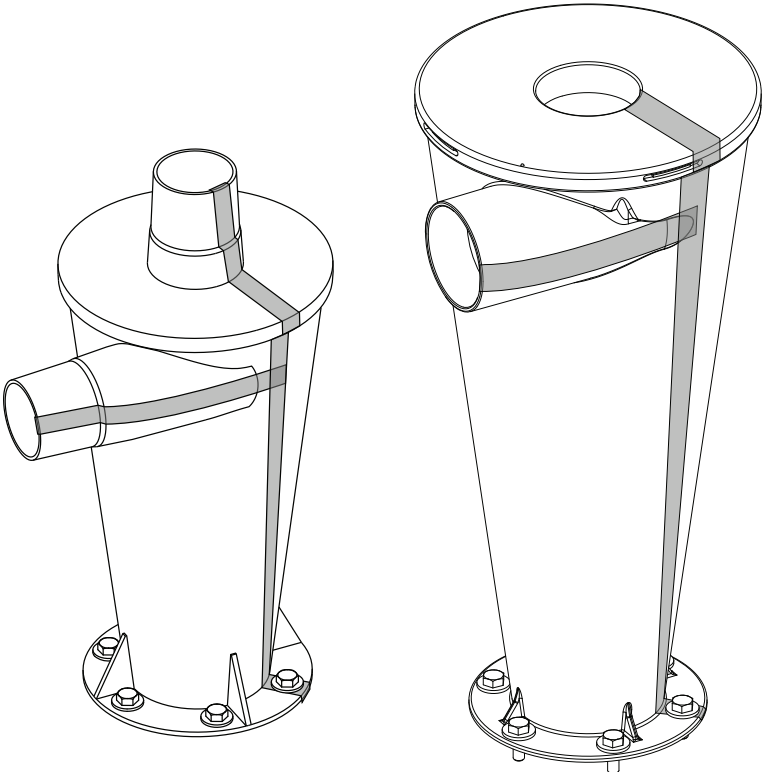

FIG. 12
Install the Metal Tape (C) to the Cyclone (A) so that the inlet, outlet, and flange are attached by a continuous, conductive path. The tape should wrap 1/4" around the edge of each opening [FIG 12].